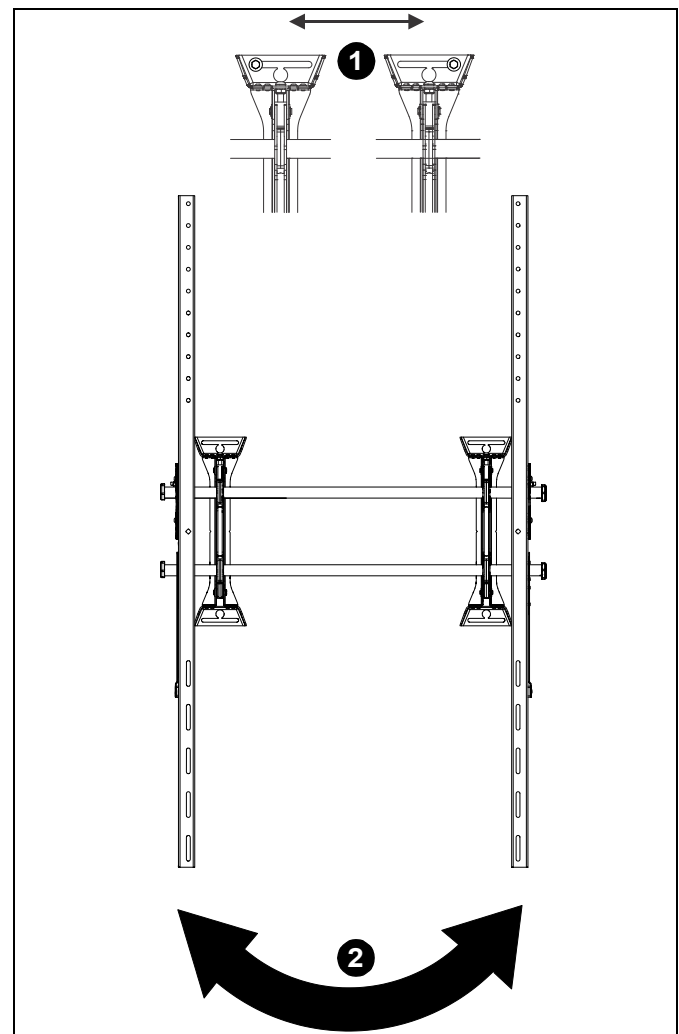

Figure 7
1. The wall brackets may be adjusted side to side at the point of attachment. (See Figure 7)
2. The location of the left and right interface brackets (V and W) may be switched. (See Figure 7)